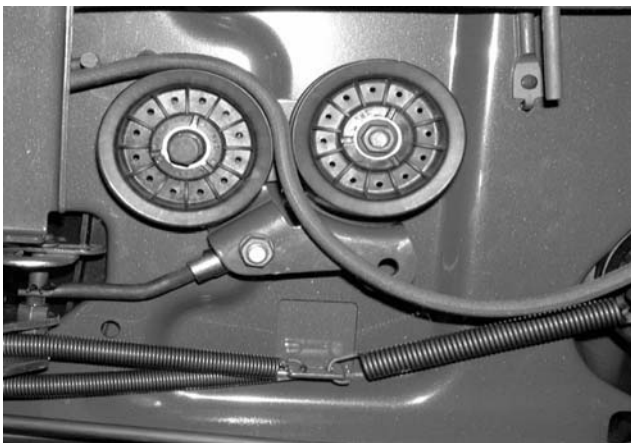

Figure 9-23
5. Loosen (DO NOT REMOVE) the flat moving idler on the double-idler bracket. See Figure 9-23.